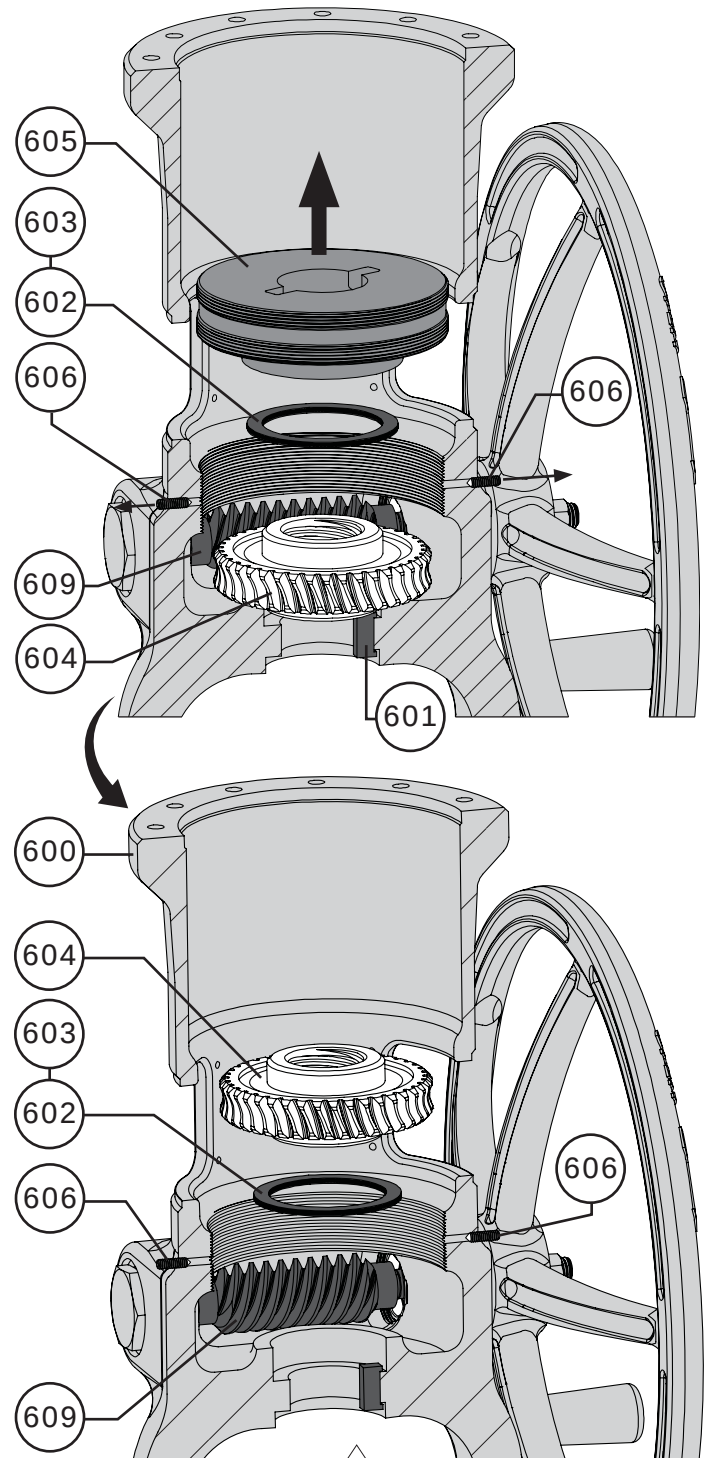

Figure 83 Retainer Flange Removal - Part 2
- 19** Remove the thrust bearing/races (Keys 602 & 603), worm gear (Key 604), and second thrust bearing and races (Keys 602 & 603). Refer to Figure 83.